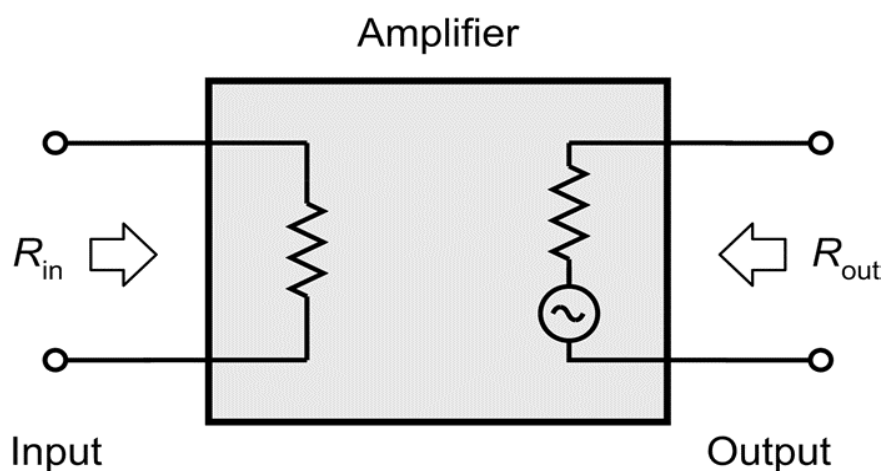

Figure 1.26 The Input and output resistance, with the input and output terminals, respectively.
- Fig. 1.26 shows how the input and output resistances are 'seen' looking into the input and output terminals, respectively.